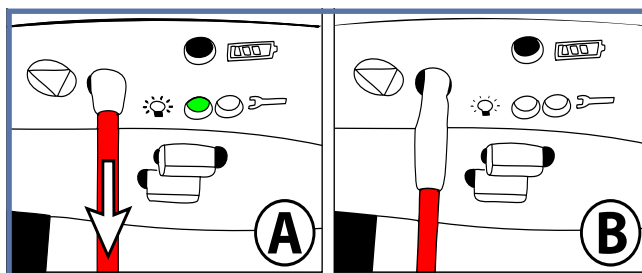

Fig. 9
- 1) To stop the lift in any emergency, gently pull the red emergency cord until you hear a “click” (see Fig. 9 - A). You will notice that the reset switch’s plastic insert, at the very top of the red cord, has descended (see Fig. 9 - B). The green power light has also turned off. You may also notice that the patient begins to descend slowly when the emergency stop is activated. This is normal.